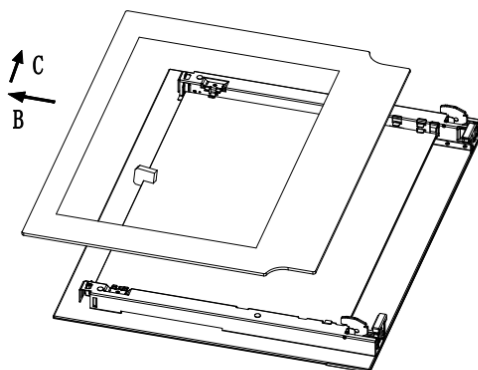

Fig.4
2. Take out inner glass slowly (Fig.4)